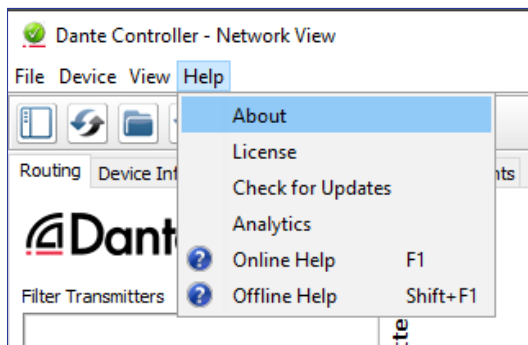

Figure 92. Accessing the Dante Help File
- Click the **Help** icon in the upper-right corner of the **Network View** screen (see figure 92).